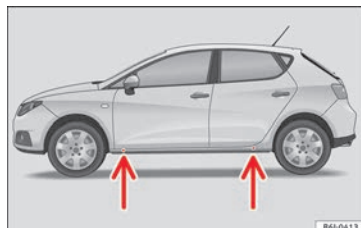

Fig. 66 Jack position points
- Find the support point on the strut (sunken area) closest to the wheel to be changed »» Fig. 66.